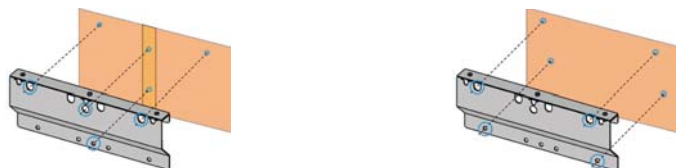

Figure 4 - wall mounting - wooden frame (center stud) Figure 5 - wall mounting on brick/concrete
Step 1: Using four of the five 6.3 x 70mm screws provided, screw the bracket to the mounting surface using the recommended screw positions for each mounting scenario as shown in Figures 4, 5 and 6.